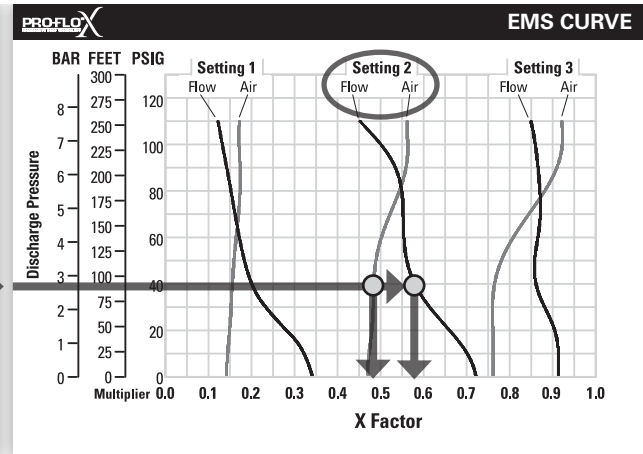

Figure 2
**FIGURE 2** When the pressurized diaphragm, diaphragm A, reaches the limit of its discharge stroke, the air valve redirects pressurized air to the back side of diaphragm B. The pressurized air forces diaphragm B away from the center while pulling diaphragm A to the center. Diaphragm B is now on its discharge stroke. Diaphragm B forces the inlet valve ball onto its seat due to the hydraulic forces developed in the liquid chamber and manifold of the pump. These same hydraulic forces lift the discharge valve ball off its seat, while the opposite discharge valve ball is forced onto its seat, forcing fluid to flow through the pump discharge. The movement of diaphragm A toward the center of the pump creates a vacuum within liquid chamber A. Atmospheric pressure forces fluid into the inlet manifold of the pump. The inlet valve ball is forced off its seat allowing the fluid being pumped to fill the liquid chamber.
**Step 2: Determining flow and air X Factors.** Locate your discharge pressure (40 psig) on the vertical axis of the EMS curve (Figure 2). Follow along the 2.8 bar (40 psig) horizontal line until intersecting both flow and air curves for your desired EMS setting (in this case, setting 2). Mark the points where the EMS curves intersect the horizontal discharge pressure line. After locating your EMS points on the EMS